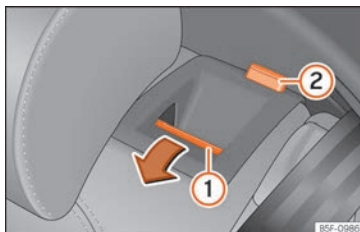

Fig. 152 On the rear seat backrest: release button ①; red mark ②.
- Press the unlock button »» Fig. 152 ① forwards and at the same time fold the backrest down. The rear seat backrest is not engaged when the red marking of the button ② is visible.